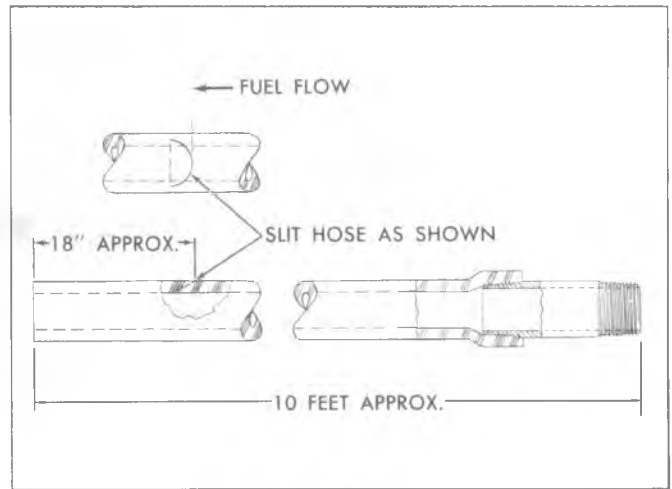

Fig. 1—Siphon Construction
1. Obtain approximately 10 feet of 3/8" I.D. hose and cut a flap-type slit 18" from one end. Make this cut in the direction of the shorter end of hose (See Figure 1).